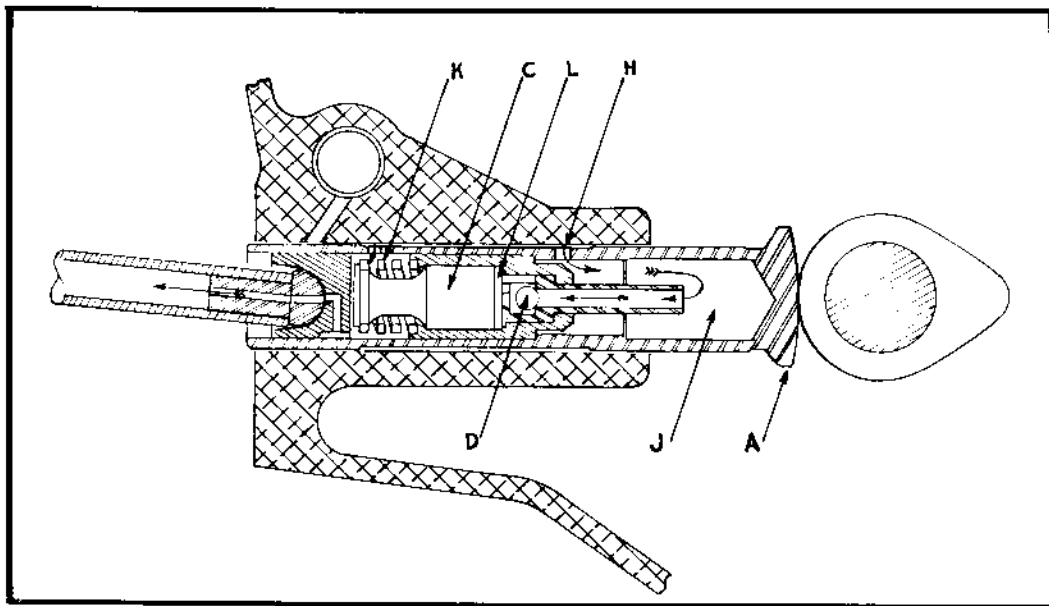

Figure 5. Section Through Hydraulic Tappet.
With face of the lifter on the base circle of the cam and the engine valve seated as shown in figure 5, the light plunger spring (K) lifts the hydraulic plunger (C) so that its outer end contacts the push rod, taking up the clearance at this point and all along the valve train, giving zero lash. As the plunger (C) moves outward, increasing the volume in the pressure adjusting chamber (L) the ball check valve (D) moves off its seat and oil from the supply chamber (J) flows in and fills chamber (L).